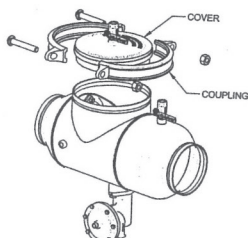

Figure 2
1. Remove the cover clamp by backing off the nut until the latch can be disengaged from the T-bolt. Pull the clamp apart and slide away from the valve. See Figure 2.